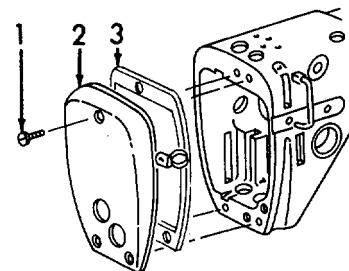

Figure 6-27. Face Plate, Removal.
a. Removal (Refer to Figures 6-27 and 6-28).
- (1) Refer to Figure 6-27. Remove three screws (1).
- (2) Remove face plate (2) and gasket (3).
- (3) Discard gasket (3).